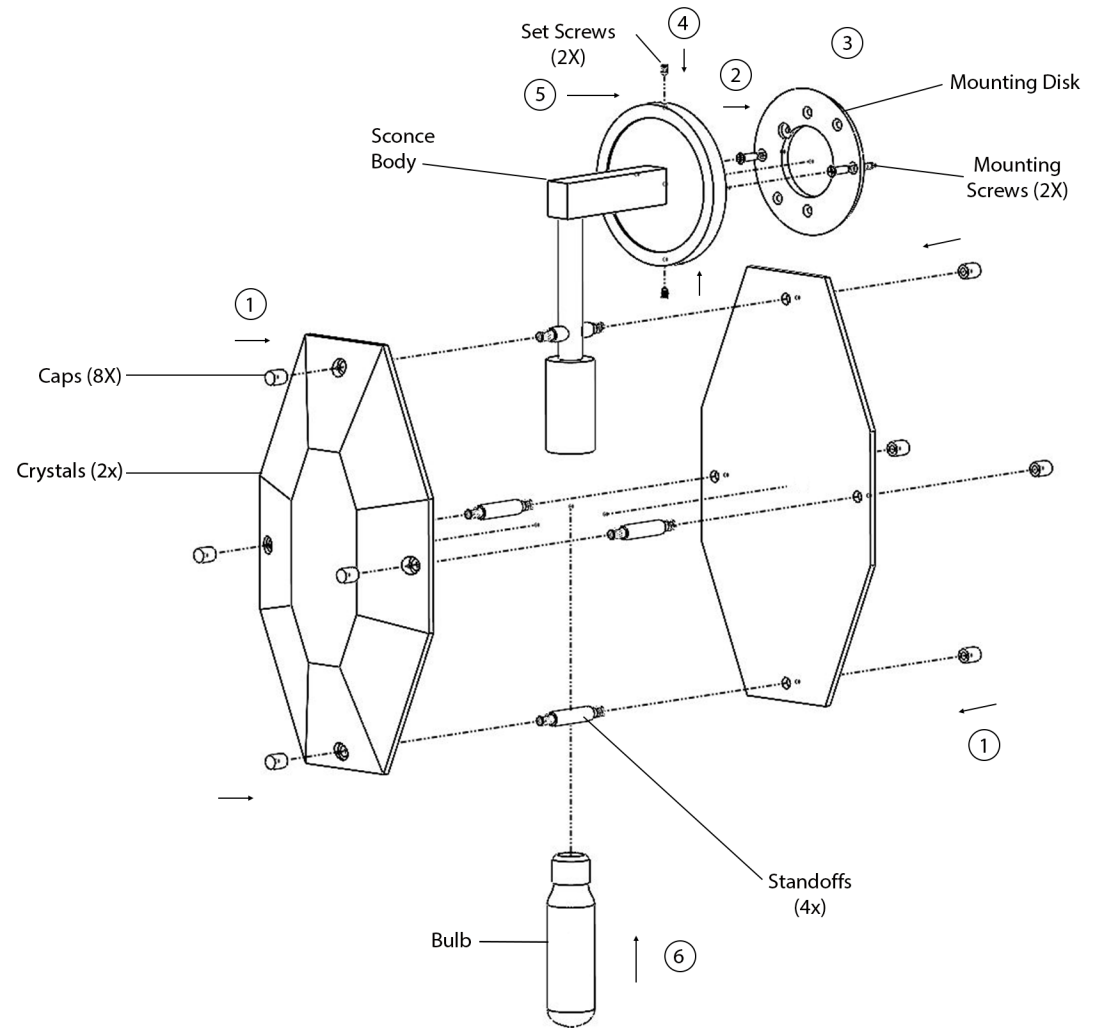

Figure 1
5. Install the back crystal on the sconce body and secure it with the top cap. Then, install all the standoffs onto the back crystal and secure them using the caps. Align the front crystal with the back crystal and standoffs and secure it using the remaining caps starting from the top cap as shown in Figure 1. Do not overtighten the cap.